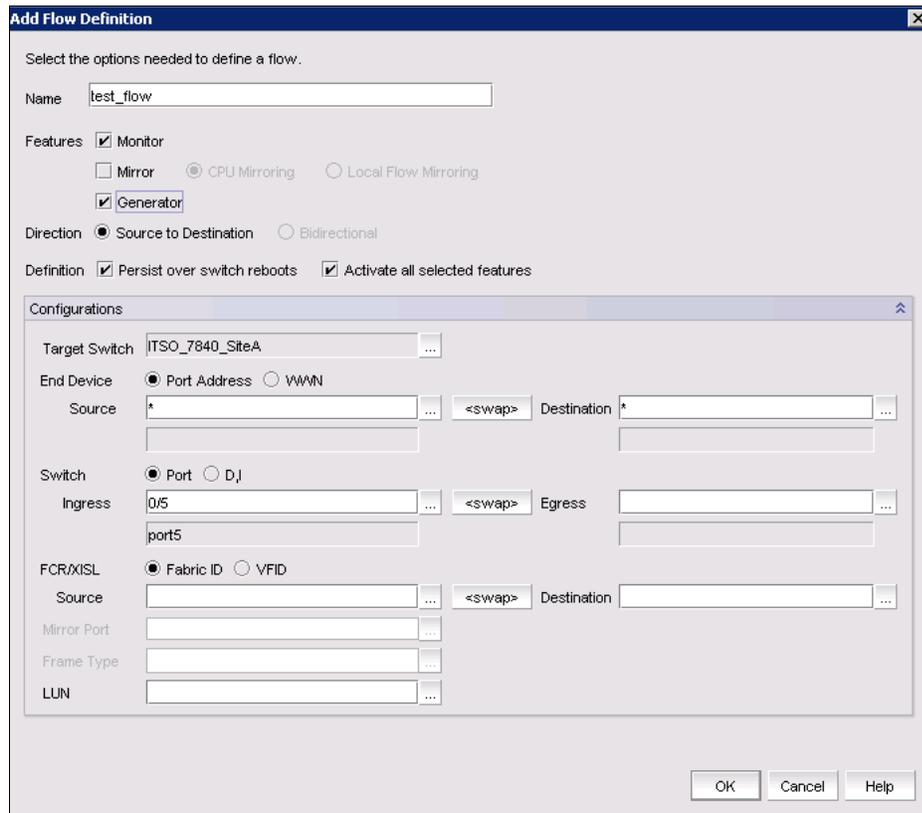

Figure 7-14 Add flow definition
3. The Add Flow Definition window is displayed. Enter a name for the new flow (Figure 7-14).